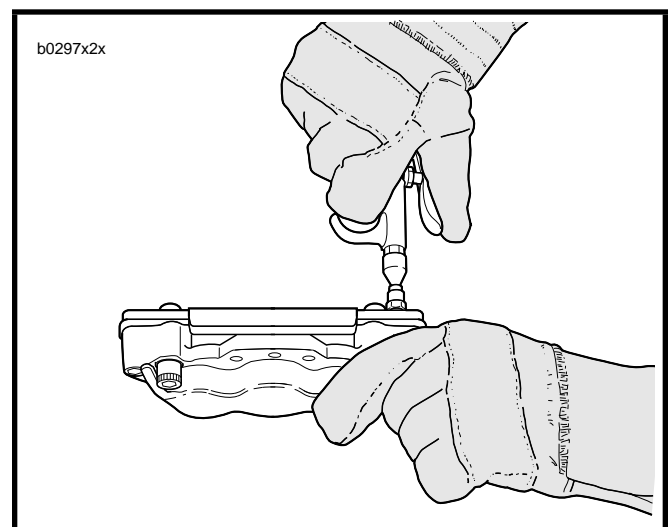

Figure 13. Using Air Pressure to Remove Pistons
3. See Figure 13. Apply low pressure air to force the pistons from the caliper bores.